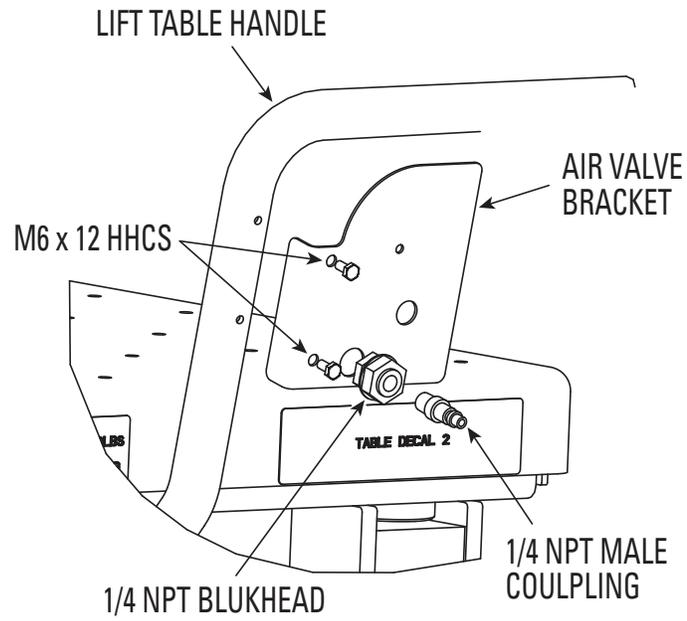

Fig. 3
4.) Attach Valve bracket using (2) M10 x 12 HHSC. Attach 1/4 NPT bulkhead to valve bracket then attach 1/4 NPT male coupler to the bulkhead , Fig. 3.